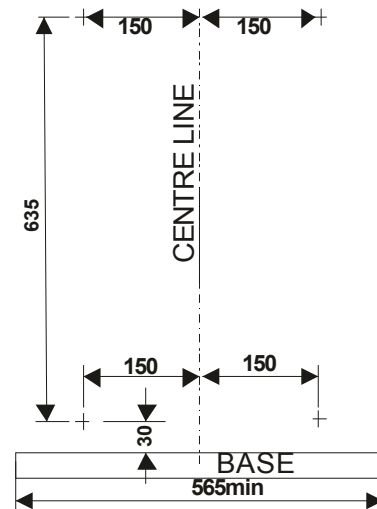

Figure 42
1. From the top of the constructed base mark out, drill and plug the positions of the four vine eyes on the wall behind the fireplace opening. Screw in the vine eyes. (See **Figure 42**)